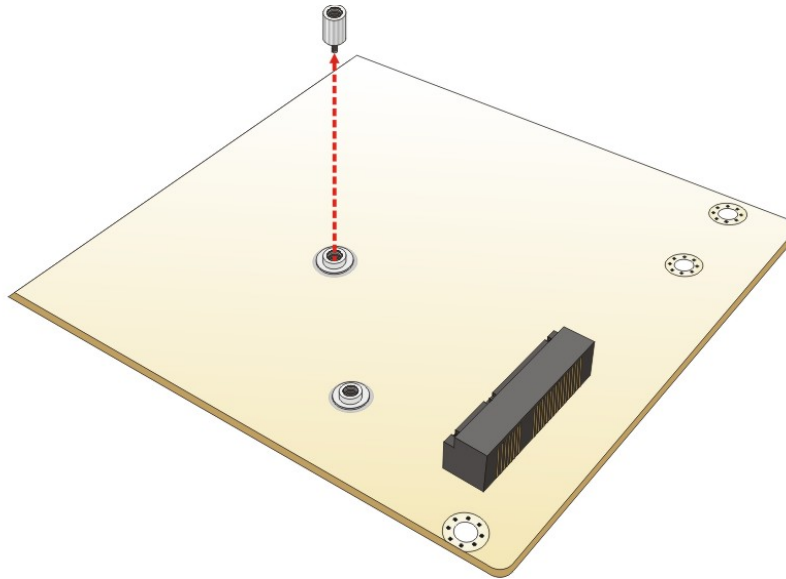

Figure 4-8: Removing the Standoff
- Step 3:** Remove the standoff. Unscrew and remove the standoff secured on the motherboard as shown in **Figure 4-8**.